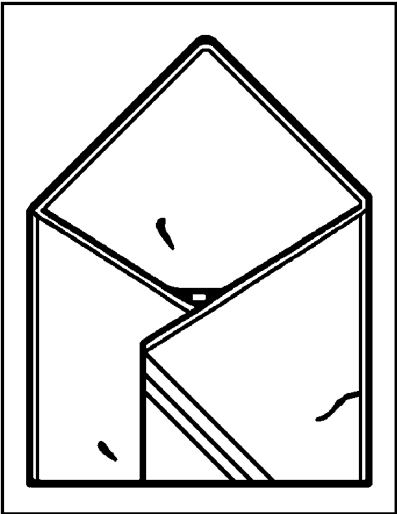

Figure 3-12
- g. Repeat steps 10e and 10f for the opposite side of the pack. (See Figure 3-12.)